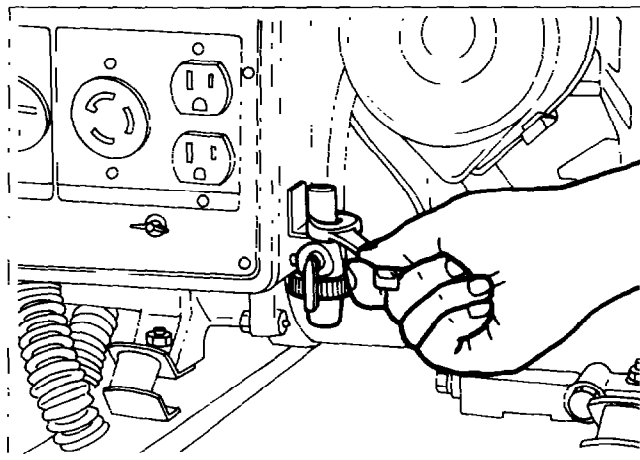

Fig. 10-5
(2) Disconnect the connectors on the wiring from the control box to the alternator.
(3) Remove the fuel strainer. Remove the nut on top of the fuel strainer located beside the control box. (See Fig. 10-5.)